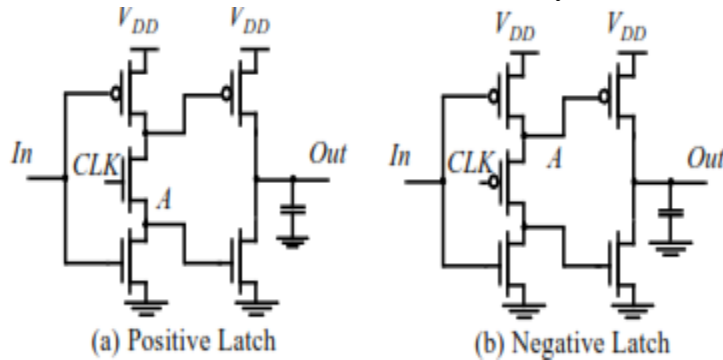

Figure 3.20 Simplified TSPC latch (also called split-output).
- The TSPC latch circuits can be reduced, as in Figure 3.20, where only the first inverter is controlled by the clock.